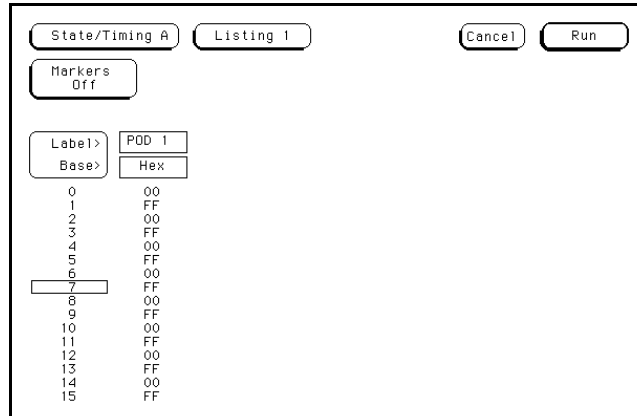

Figure 3-18. Listing Screen
6. Touch **Run**. The State Listing screen will be displayed and should list alternate F's and 0's as shown in figure 3-18.